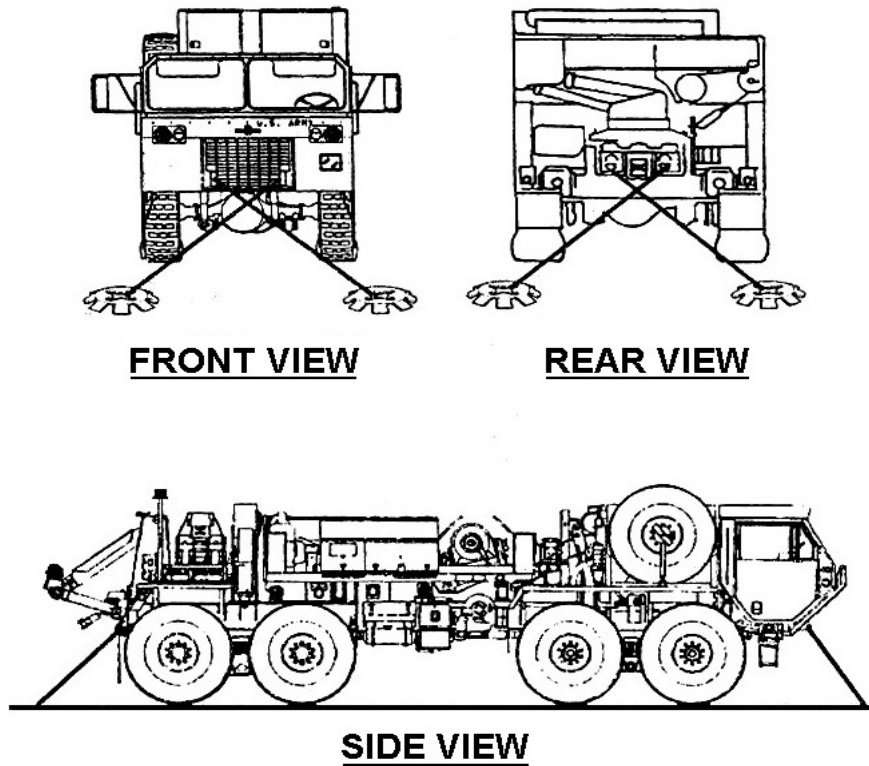

Figure 3-95
1. Stow wheeled vehicles on RO/RO deck (see Figure 3-95).